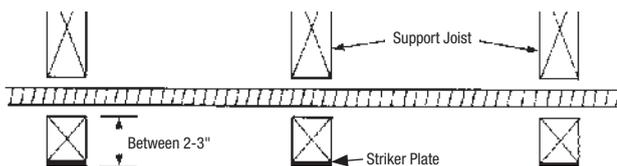
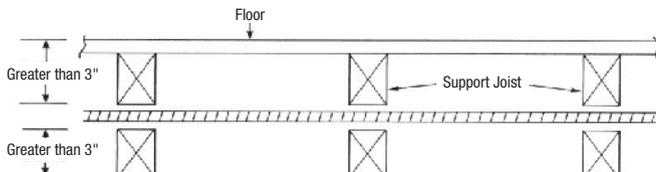

Figure 4.11 SHIELDING AT SUPPORT AREA WHEN PENETRATION IS 2-3 INCHES FROM EDGE
Figure 4.13 Penetration Point Greater than 3" from Edge of Stud, Joist, Plate, etc.
- At support points and points of possible penetration 2-3 inches from any edge of stud, joist plate, or other member, shielding is required throughout the area of support. (Figure 4.11)
- Support tubing such that it is more than 3 inches away from any outside edge of a stud, joist, plate, etc., or wall surface. (See Figure 4.13 compared to Figure 4.11)